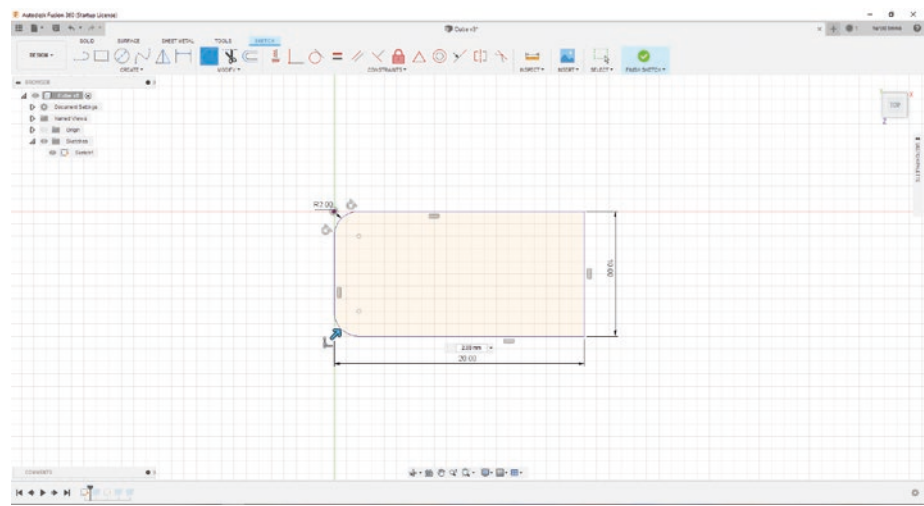

Figure 3-76. *Select left-side outlines*
- 32. Click the top horizontal line, then the left vertical line, and finally the bottom horizontal line. See Figure 3-76.